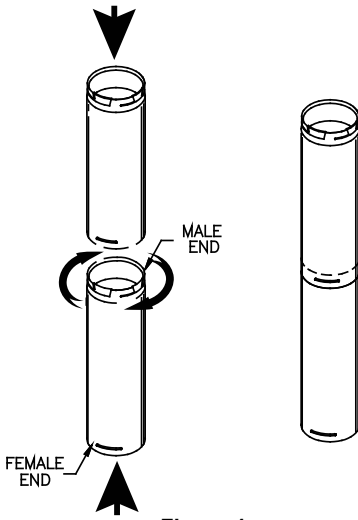
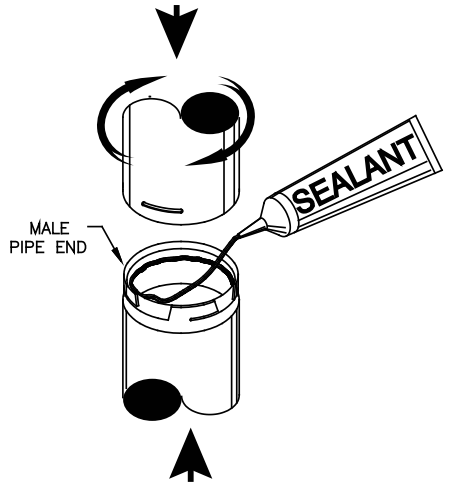

Figure 4
Figure 5
D. Connect Pipe Sections. Attach PelletVent Pro Pipe Sections by pushing male and female ends of pipe together and twisting until pipe is in locked position (**Figure 4**). PelletVent Pro pipe sections do not require any sealant; however in certain instances high temp silicone sealant may be used. Seal connection where the inner liners overlap for best results (**Figure 5**). Screws are not needed, but 1/4" screws can be used if desired, however, be sure you do not penetrate the inner liner.